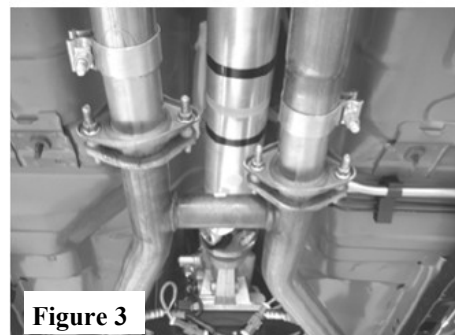

Figure 3
1. Place one flange on each flared front pipes and place them into position using the original hardware. DO NOT TIGHTEN CLAMP BOLTS. (See Fig.3)